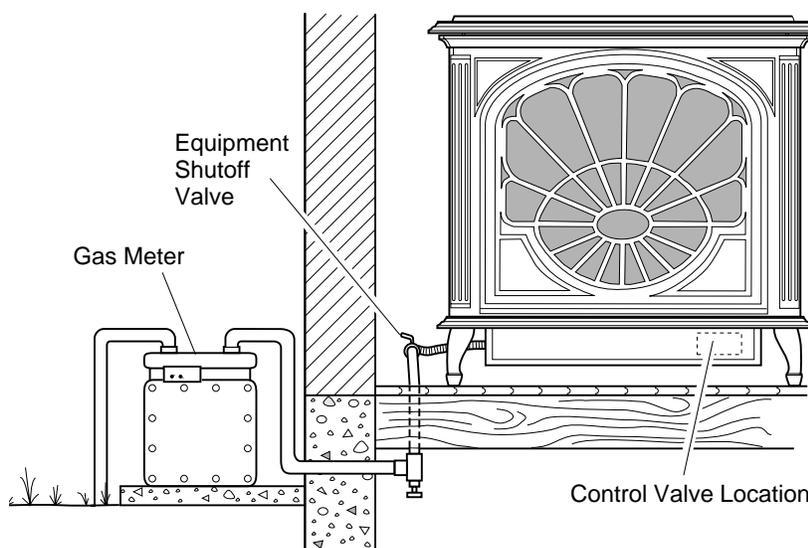

Figure 23 - Checking Gas Joints (Amity™ Stove Model Shown)
3. Check all joints from gas meter to equipment shutoff valve (see Figure 23). Apply a noncorrosive leak detection fluid to gas joints. Bubbles forming show a leak.
4. Check all joints from equipment shutoff valve to control valve (see Figure 23). Apply a noncorrosive leak detection fluid to gas joints. Bubbles forming show a leak.